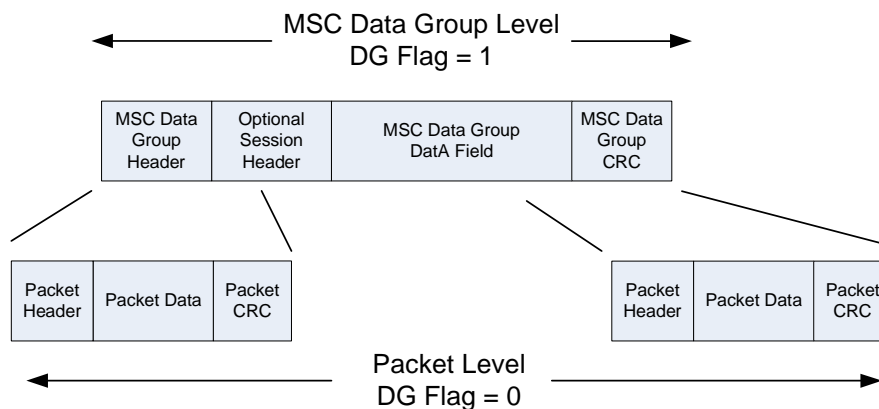

Figure 7. Packet Mode Payload Definitions
Figure 7 shows the level at which data is forwarded to the host for Packet mode based on the state of the data group flag.
- Packet Mode / no Data Groups: Passed to the host as one or more packets from a logical frame with CRC. The format of these packets is entirely defined by the application type. The Si468x firmware performs no repackaging of this data. See Figure 7 for details.
IP Packets are presented in packet mode with data groups. Therefore the data is presented at the data group level as defined in clause 5.3.3 of [1]. The payload in the data group packet will be a single IP packet. See Figure 7 on page 346 for details.